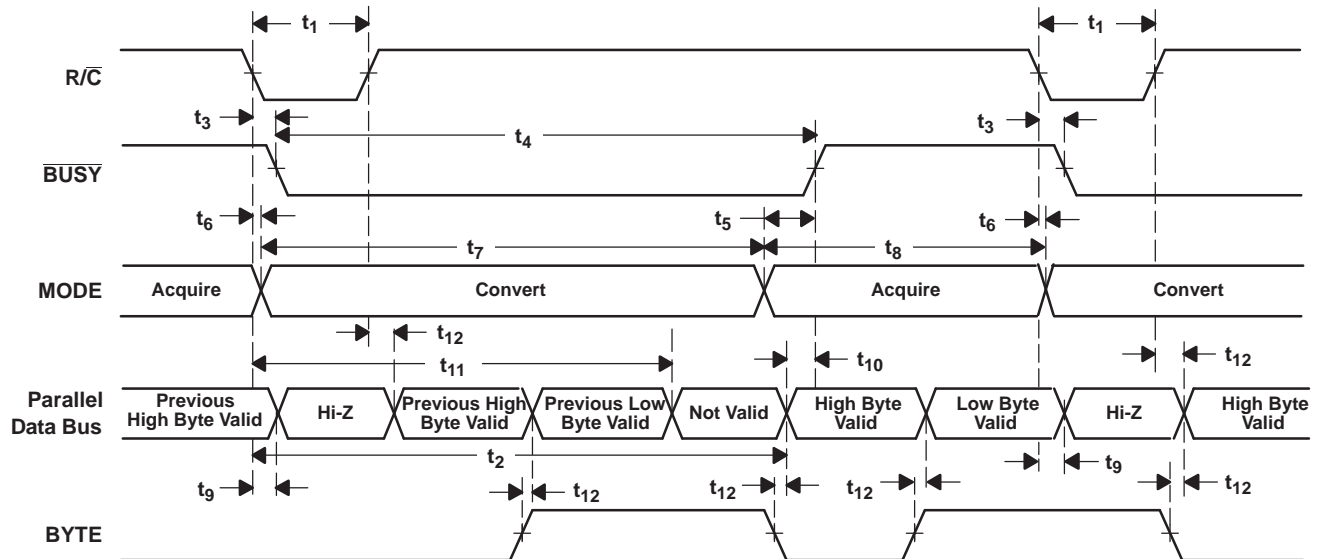
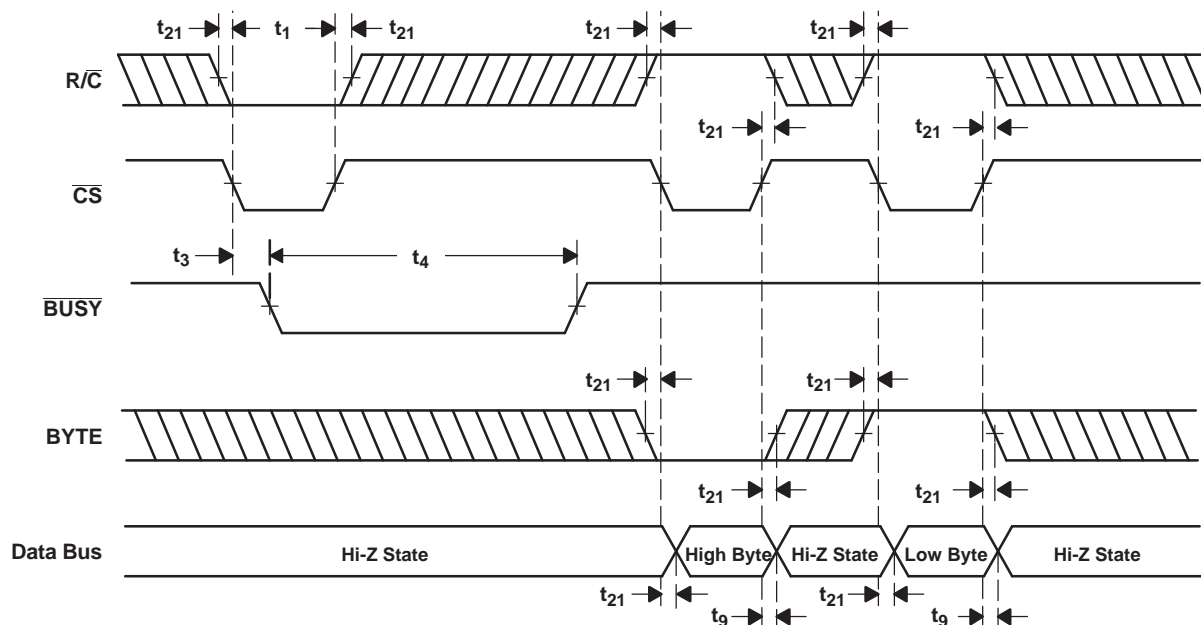

Figure 30. Conversion Timing With Parallel Output ($\overline{\text{CS}}$ and DATACLK Tied Low, EXT/INT Tied High)
Figure 31. $\overline{\text{CS}}$ to Control Conversion and Read Timing With Parallel Outputs
The ADS8517 begins tracking the input signal at the end of the conversion. Allowing 5 μ s between convert commands assures accurate acquisition of a new signal. Refer to Table 2 and Table 3 for a summary of \overline{CS} , R/\overline{C} , and \overline{BUSY} states, and Figure 30 through Figure 36 for timing diagrams.
(1) See Figure 30 and Figure 31 for constraints on data valid from conversion $N-1$.
After conversion N is completed and the output registers have been updated, $\overline{\text{BUSY}}$ (pin 24) goes high. Valid data from conversion N are available on D7-D0 (pin 9-13 and 15-17). $\overline{\text{BUSY}}$ going high can be used to latch the data. Refer to Table 5, Figure 30, and Figure 31 for timing specifications.
After conversion N has been initiated, valid data from conversion $N-1$ can be read and are valid up to $2.2\ \mu\text{s}$ after the start of conversion N . Do not attempt to read data beyond $2.2\ \mu\text{s}$ after the start of conversion N until BUSY (pin 24) goes high; doing so may result in reading invalid data. Refer to Table 5, Figure 30, and Figure 31 for timing constraints.